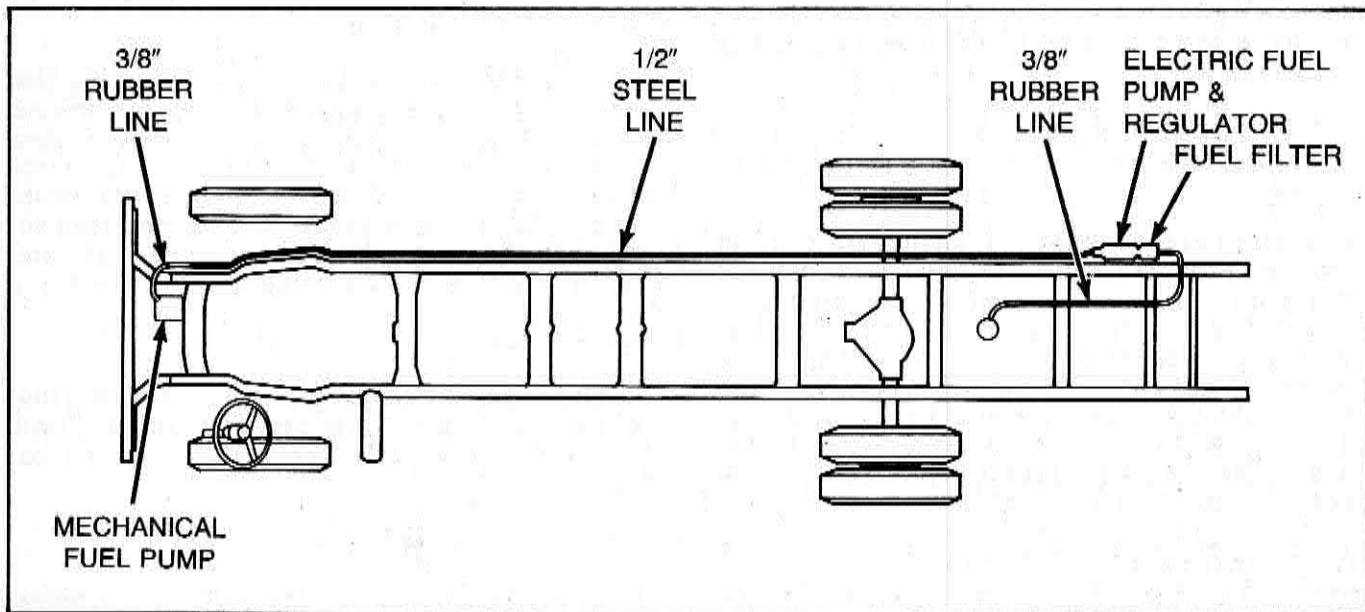

Figure A7-7-2 — 1984 Recommended Field Fix
- A one-half inch steel fuel line mounted on the outside of the frame rail, protected against rub and chafe (see Figure A7-7-2).
- Also recommended is a pump bypass line along with a check valve. The 12-801 is a positive displacement pump and will not allow fuel flow if it stops running. The bypass, which closes under fuel pressure, will allow the engine mounted mechanical pump to pull fuel from the tank in the event of an electric pump failure. (See Figure A7-7-2).